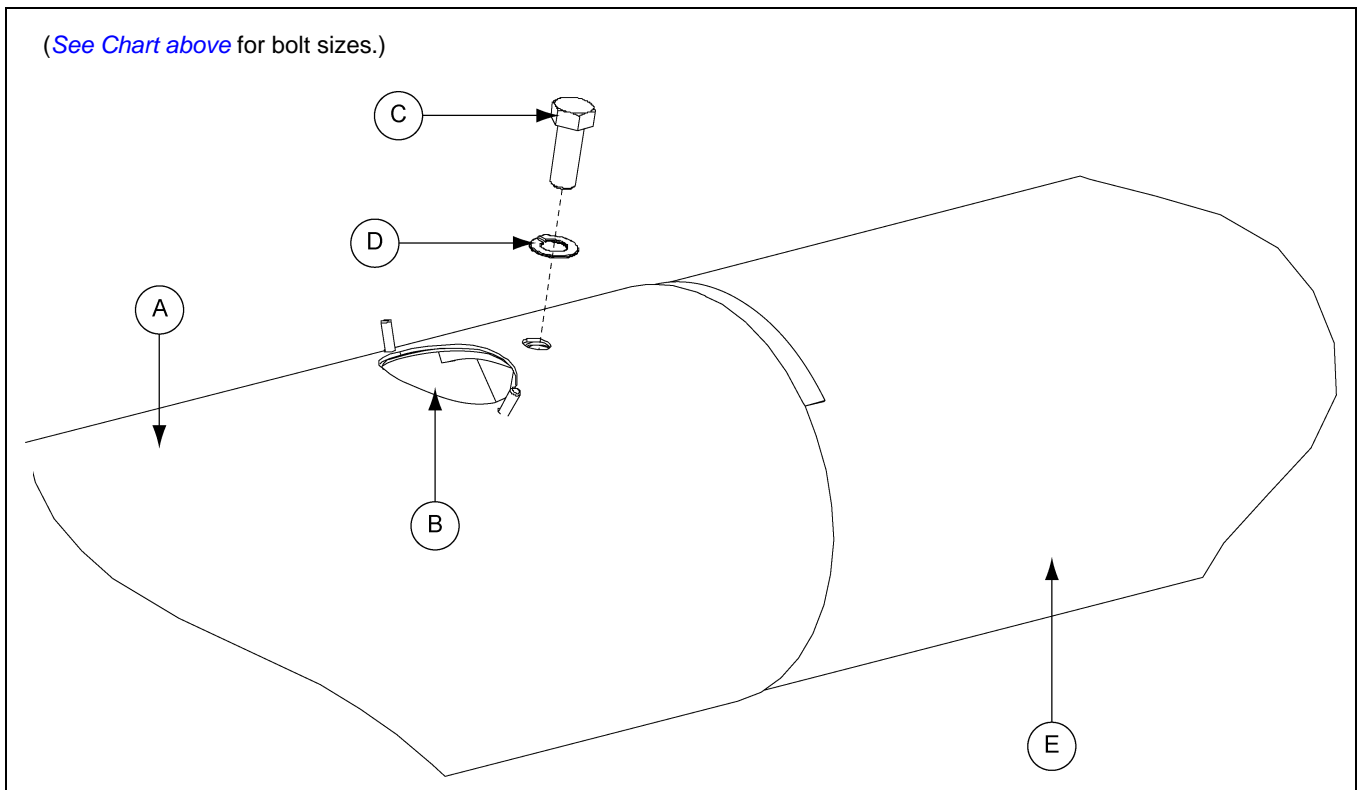

Figure 4T
4. With tube sections pressed flush against each other slide connecting band (A) over the tubes aligning the holes. Reach through the access hole (B) and align hanger bearing with the bolt (C) hole. Attach the hanger bearing to the tube using assigned hardware. (See Chart below and Figure 4T.)